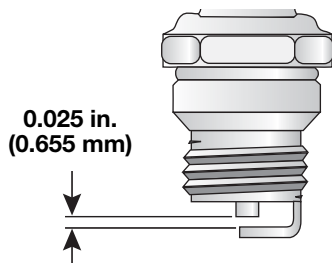

Figure 42
3. Replace cracked, fouled or dirty spark plug. Set the air gap at **0.025 in. (0.655 mm)** using a feeler gauge. See Figure 42.